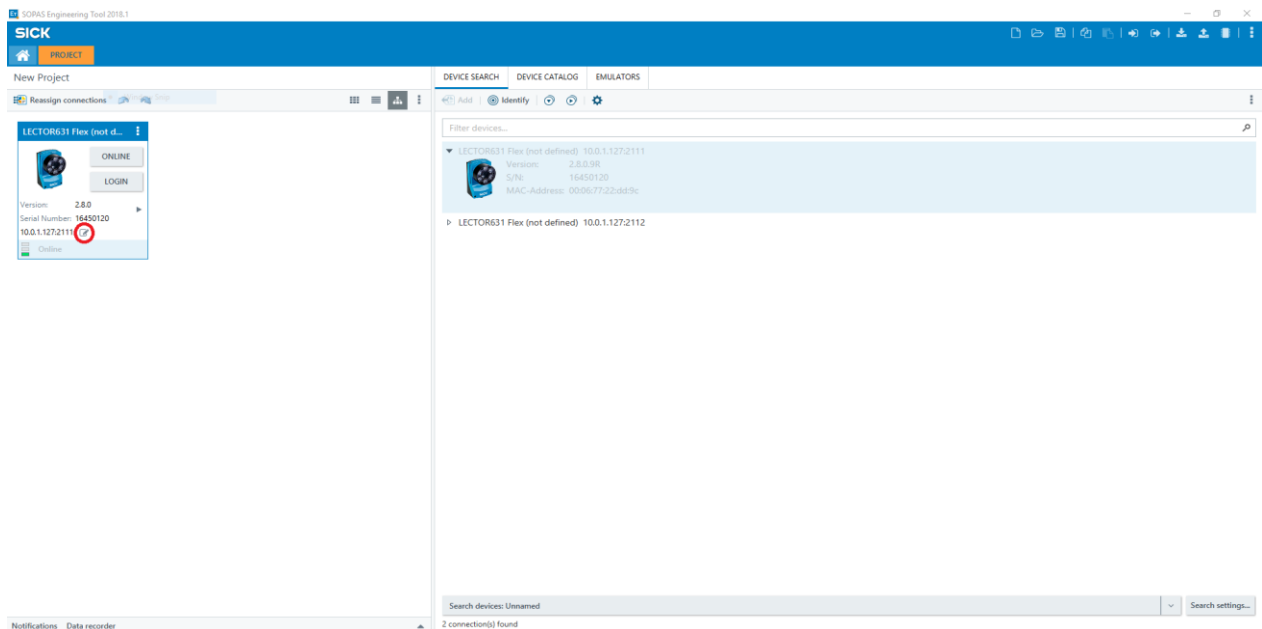

Fig 3. Open IP settings dialog by clicking the button highlighted in red.
1. Click on the icon highlighted in red on Fig 3 to open IP settings dialog.
3. Verify that the IP was set correctly by double clicking on the device icon shown in Fig 3. The program will prompt to select a user interface, select standard. If no errors appear, the IP communications have been correctly set and the next steps may be taken.